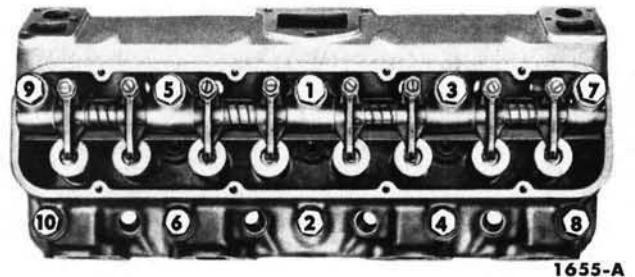

FIG. 26—Cylinder Head Bolt Tightening Sequence
5. The cylinder head bolt tightening procedure is performed in three progressive steps. Tighten the bolts to 110-120 foot-pounds torque in the proper sequence (Fig. 26), then tighten them to 120-130 foot-pounds torque in the same sequence. Finally, tighten the bolts to 130-150 foot-pounds torque in the same sequence. **After the cylinder head bolts have tightened to specifications, the should not be disturbed. Per-**